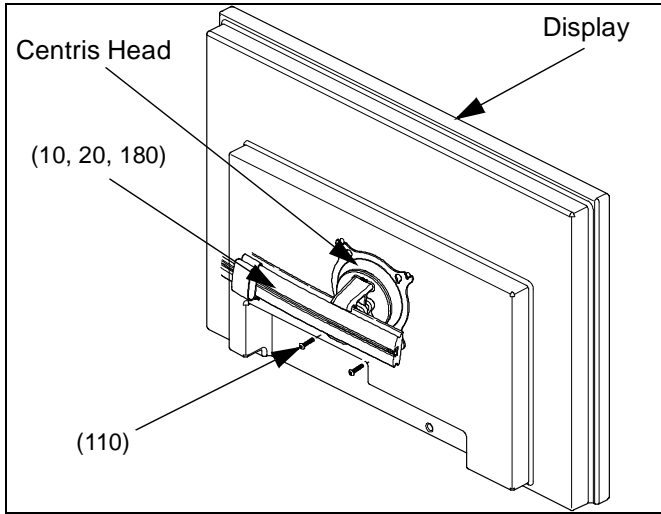

Figure 7: Secure Display to Centris Bracket
3. Install bottom two M4 x 10mm Phillips pan head screws (110) through Centris head mounting holes and into lower mounting holes in display back.
4. Tighten ALL four M4 x 10mm Phillips pan head screws (110). (see Figure 7)